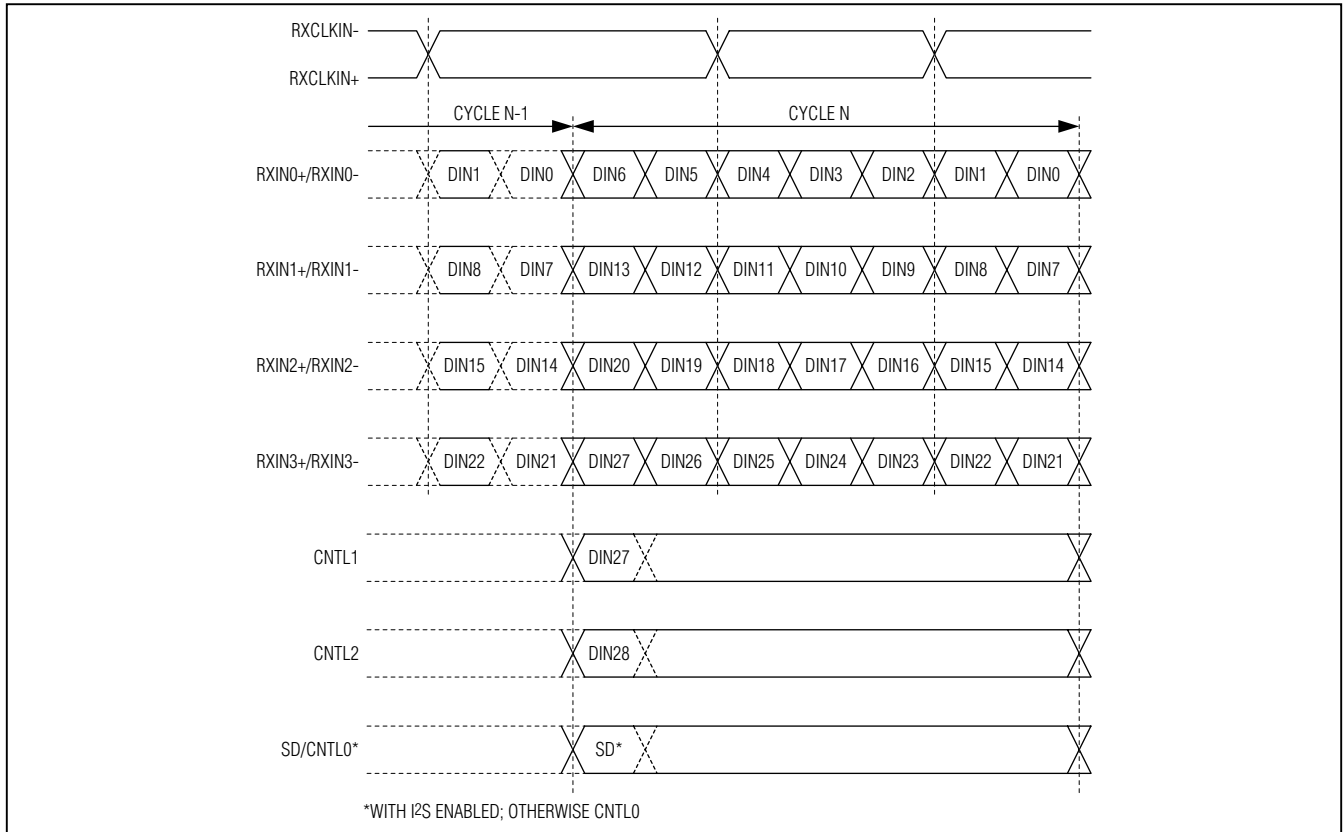

Figure 13. LVDS Input Timing
**Table 2. LVDS, HDCP Mapping and Bus Width Selection (see Figures 13 and 14)**
Table 3. LVDS, HDCP Mapping and Bus Width Selection (see Figures 13 and 14)